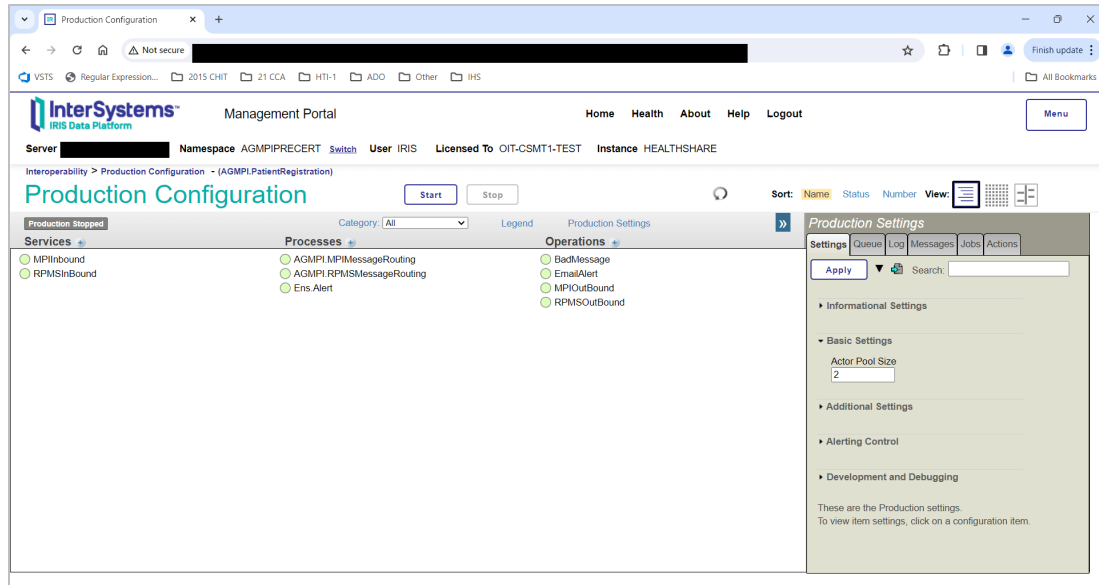

Figure 5-13: Graphic representation of the IRIS production on the **Production Configuration** page
11. The **Production Configuration** page displays a graphic representation of the IRIS production. The actual production may look slightly different from the example shown in Figure 5-13.